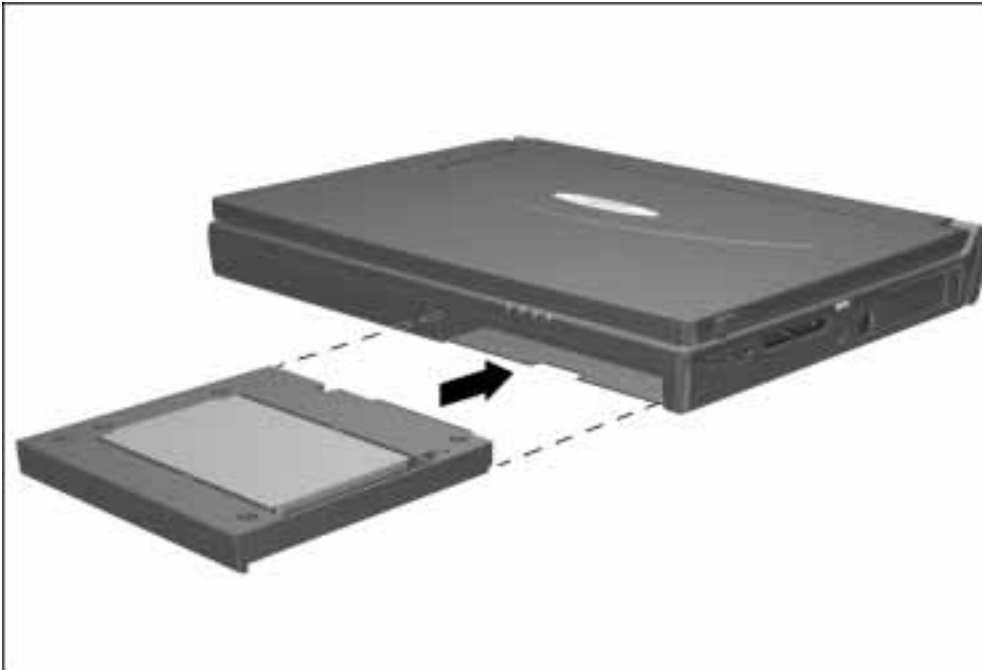

Figure 5-13. Inserting a Device into the MultiBay
2. With the bezel facing out, slide the device into the MultiBay until it clicks into place (Figure 5-13).